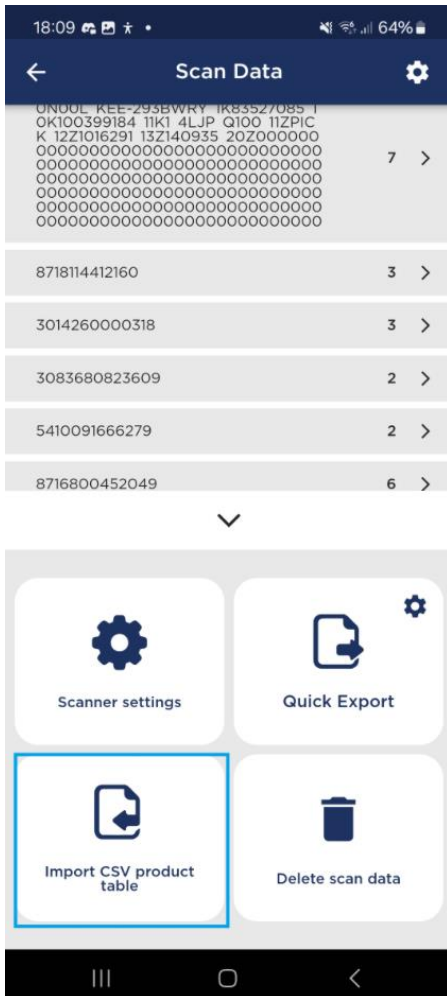

Figure 8-4: The *Import CSV product table* button in the Scan Data page.
**Device Selector (1):** Allows you to switch between connected or previously connected scanners. You can select an online or offline scanner to view its specific scan data environment.
**Scanned Code Input (2):** Displays the currently scanned barcode. You can manually enter or edit the barcode in this field.
**Quantity Input (3):** Shows the quantity of the scanned item. You can manually edit the quantity in this field.
**Quantity Adjustment Buttons (4):** These buttons allow you to increase or decrease the quantity of the scanned item. The plus icon increases the quantity, while the minus icon decreases it.
**Delete Button (5):** This button allows you to delete the current barcode entry.
**Navigation Arrows (6):** These arrows can be used to navigate through the scanned codes list, allowing you to move quickly between different scanned entries.
**Add Code Manually Button (7):** Opens a dialog to manually add a new barcode entry.
**Scanned Codes List (8):** Displays a list of all scanned barcodes with their corresponding quantities. This list can be collapsed or expanded for better visibility and organization by pressing the arrow icon below it (see Figure 8-4). The arrow icon will only appear if the list grows to a certain size; otherwise, expanding is not possible.
**Bottom Button Section:** There is a button section at the bottom of the Scan Data page with four buttons (see Figure 8-4):
- At the bottom of the Scan Data page, press the *Import CSV product table* button to begin the import procedure (see Figure 8-4).